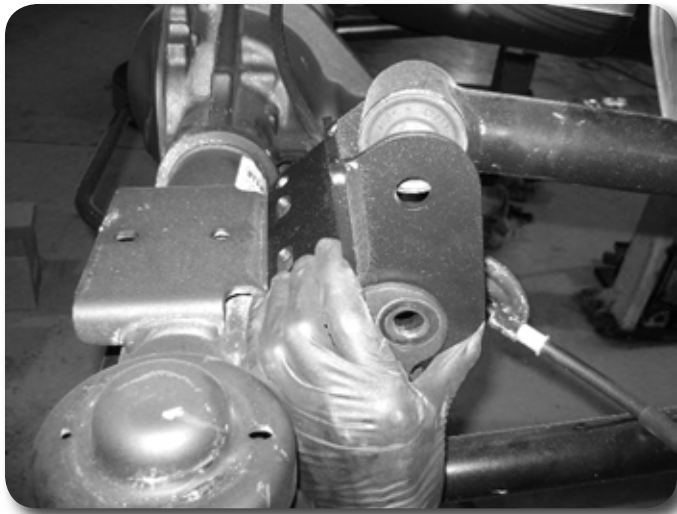
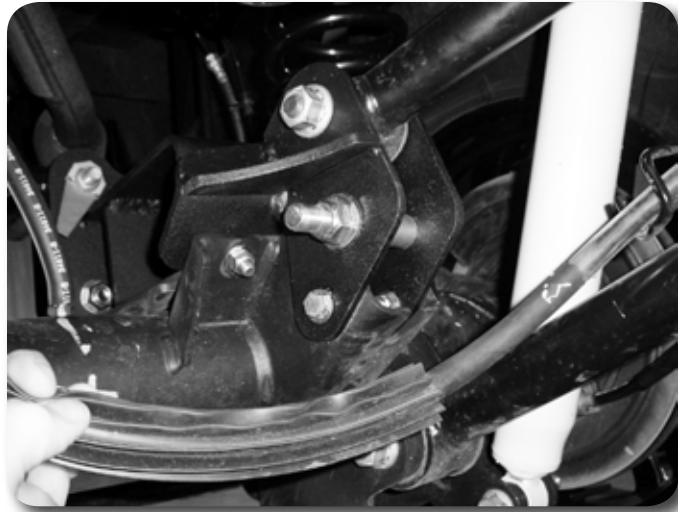

Figure 25
Figure 28
78. Place the upper control arm relocation bracket over the pocket. The plate will be offset towards the inside of the vehicle. The upper plate will only use 2 of the 4 holes. Mark the center of the holes and drill to 7/16". **Figures 25, 26, 27- pass side, Figures 28, 29 – drv side**